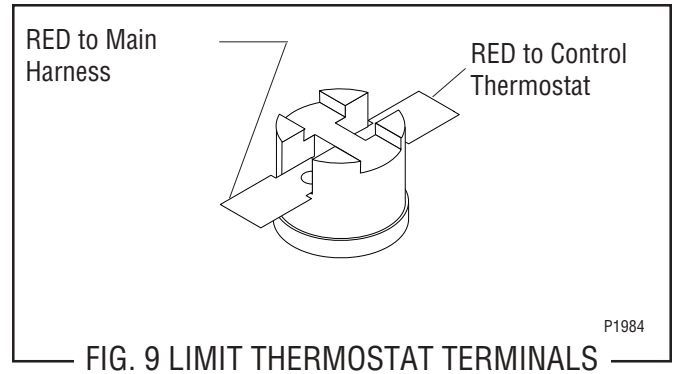

FIG. 9 LIMIT THERMOSTAT TERMINALS
4. Refer to Fig. 9 and reconnect the wires.